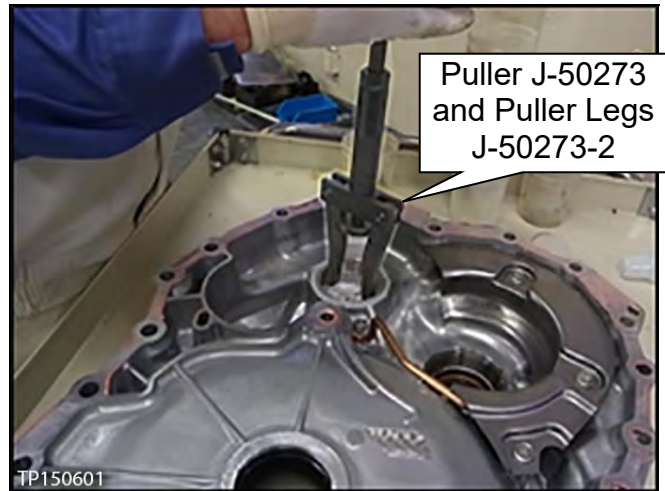

Figure 13
1. Remove the reduction gear outer race from the converter housing (see Figure 13).
- Use Slide Hammer J-25721-A with Slide Hammer Bolt J-50255-UPD to Puller J-50273 and Puller Legs J-50273-2 (see Figures 13 and 14).